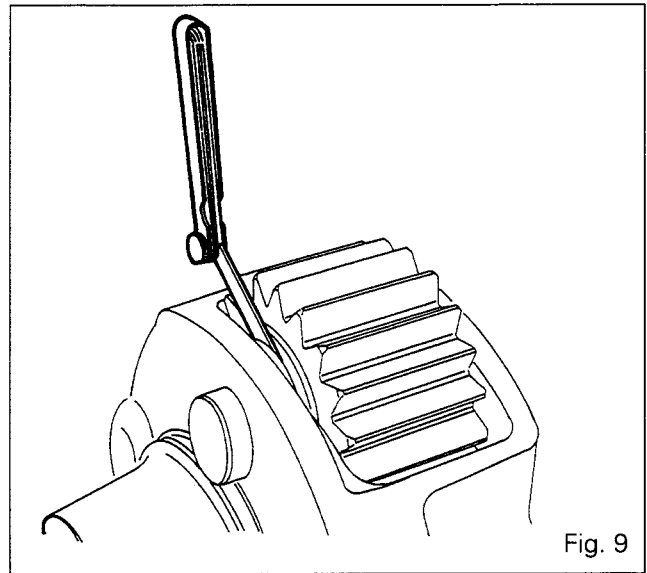

Fig. 9
14. Using a set of feeler gauges, determine the thickness of washers [13] to be fitted to obtain an end play of between 0.15 and 0.55 on each planetary gear (Fig.9).